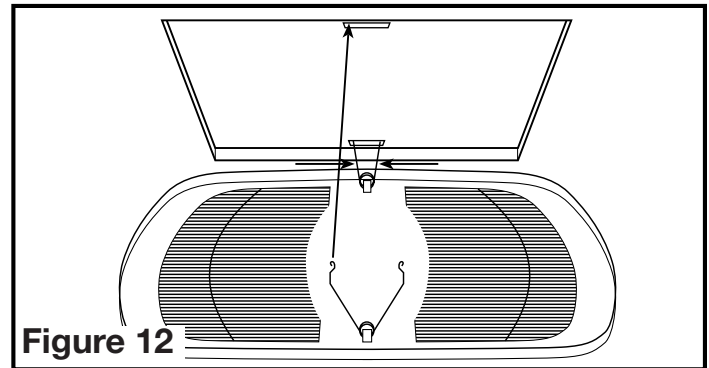

Figure 12
3. Install the grill by squeezing the two ends of the springs together and installing them up into the slots on the fan's housing. Push the grill up into position (Figure 12).